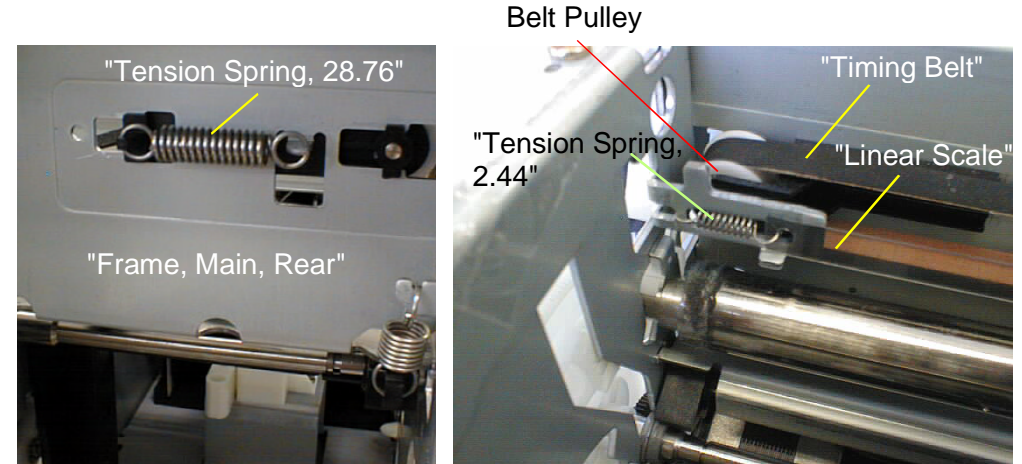

Figure 4-37. Tension spring, Timing Belt and Linear Scale Removal
- 10.Remove "Timing belt" from the pulley unit, and remove "Tension spring,2.44" for linear scale from the frame. (Refer to Figure4-37)